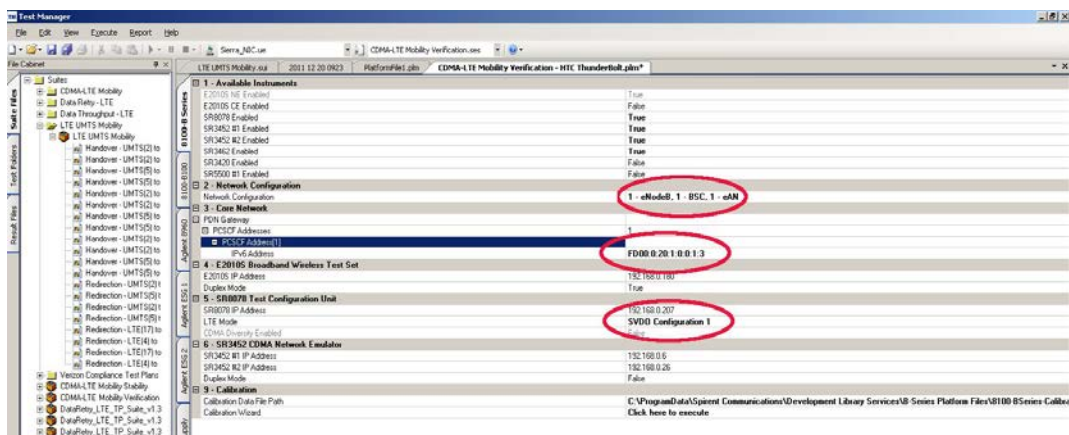

Figure 3-8: Setting Platform File Parameters
4. Under *PDN Gateway*, enter **FD00:0:20:1:0:0:1:3** for the IPv6 address, as shown in Figure 3-8.